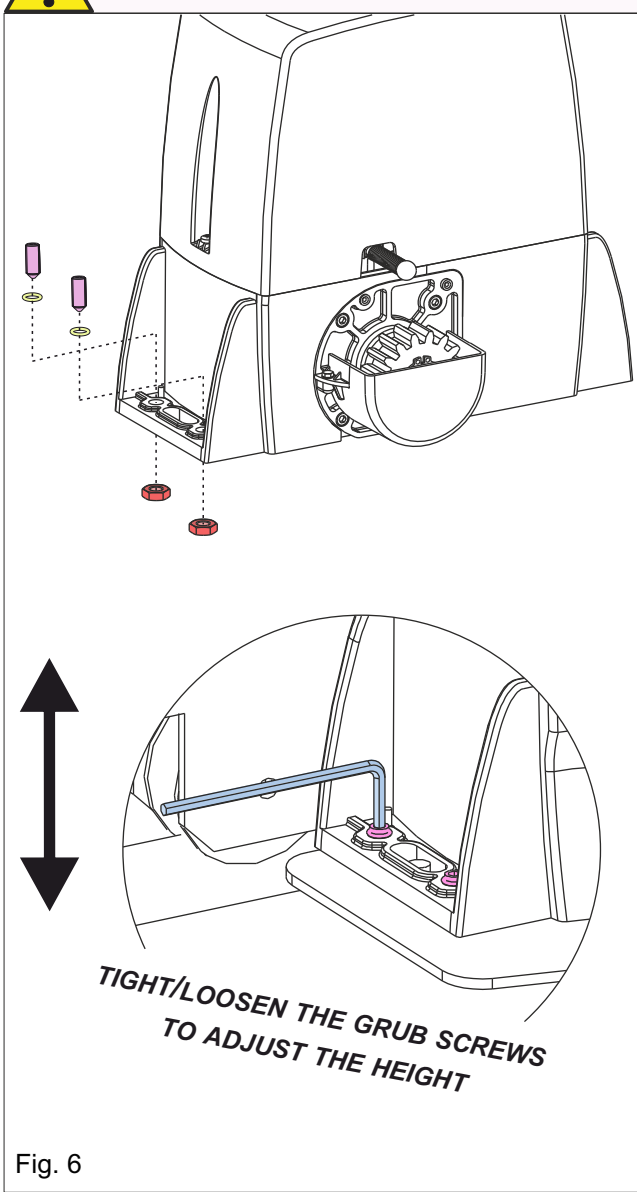

Fig. 6
6.1. Insert the 4 grub screws into the holes inside the lower casing, in order to adjust the height of the gearmotor to the plate; fix the grub screws with the nuts - Fig. 6